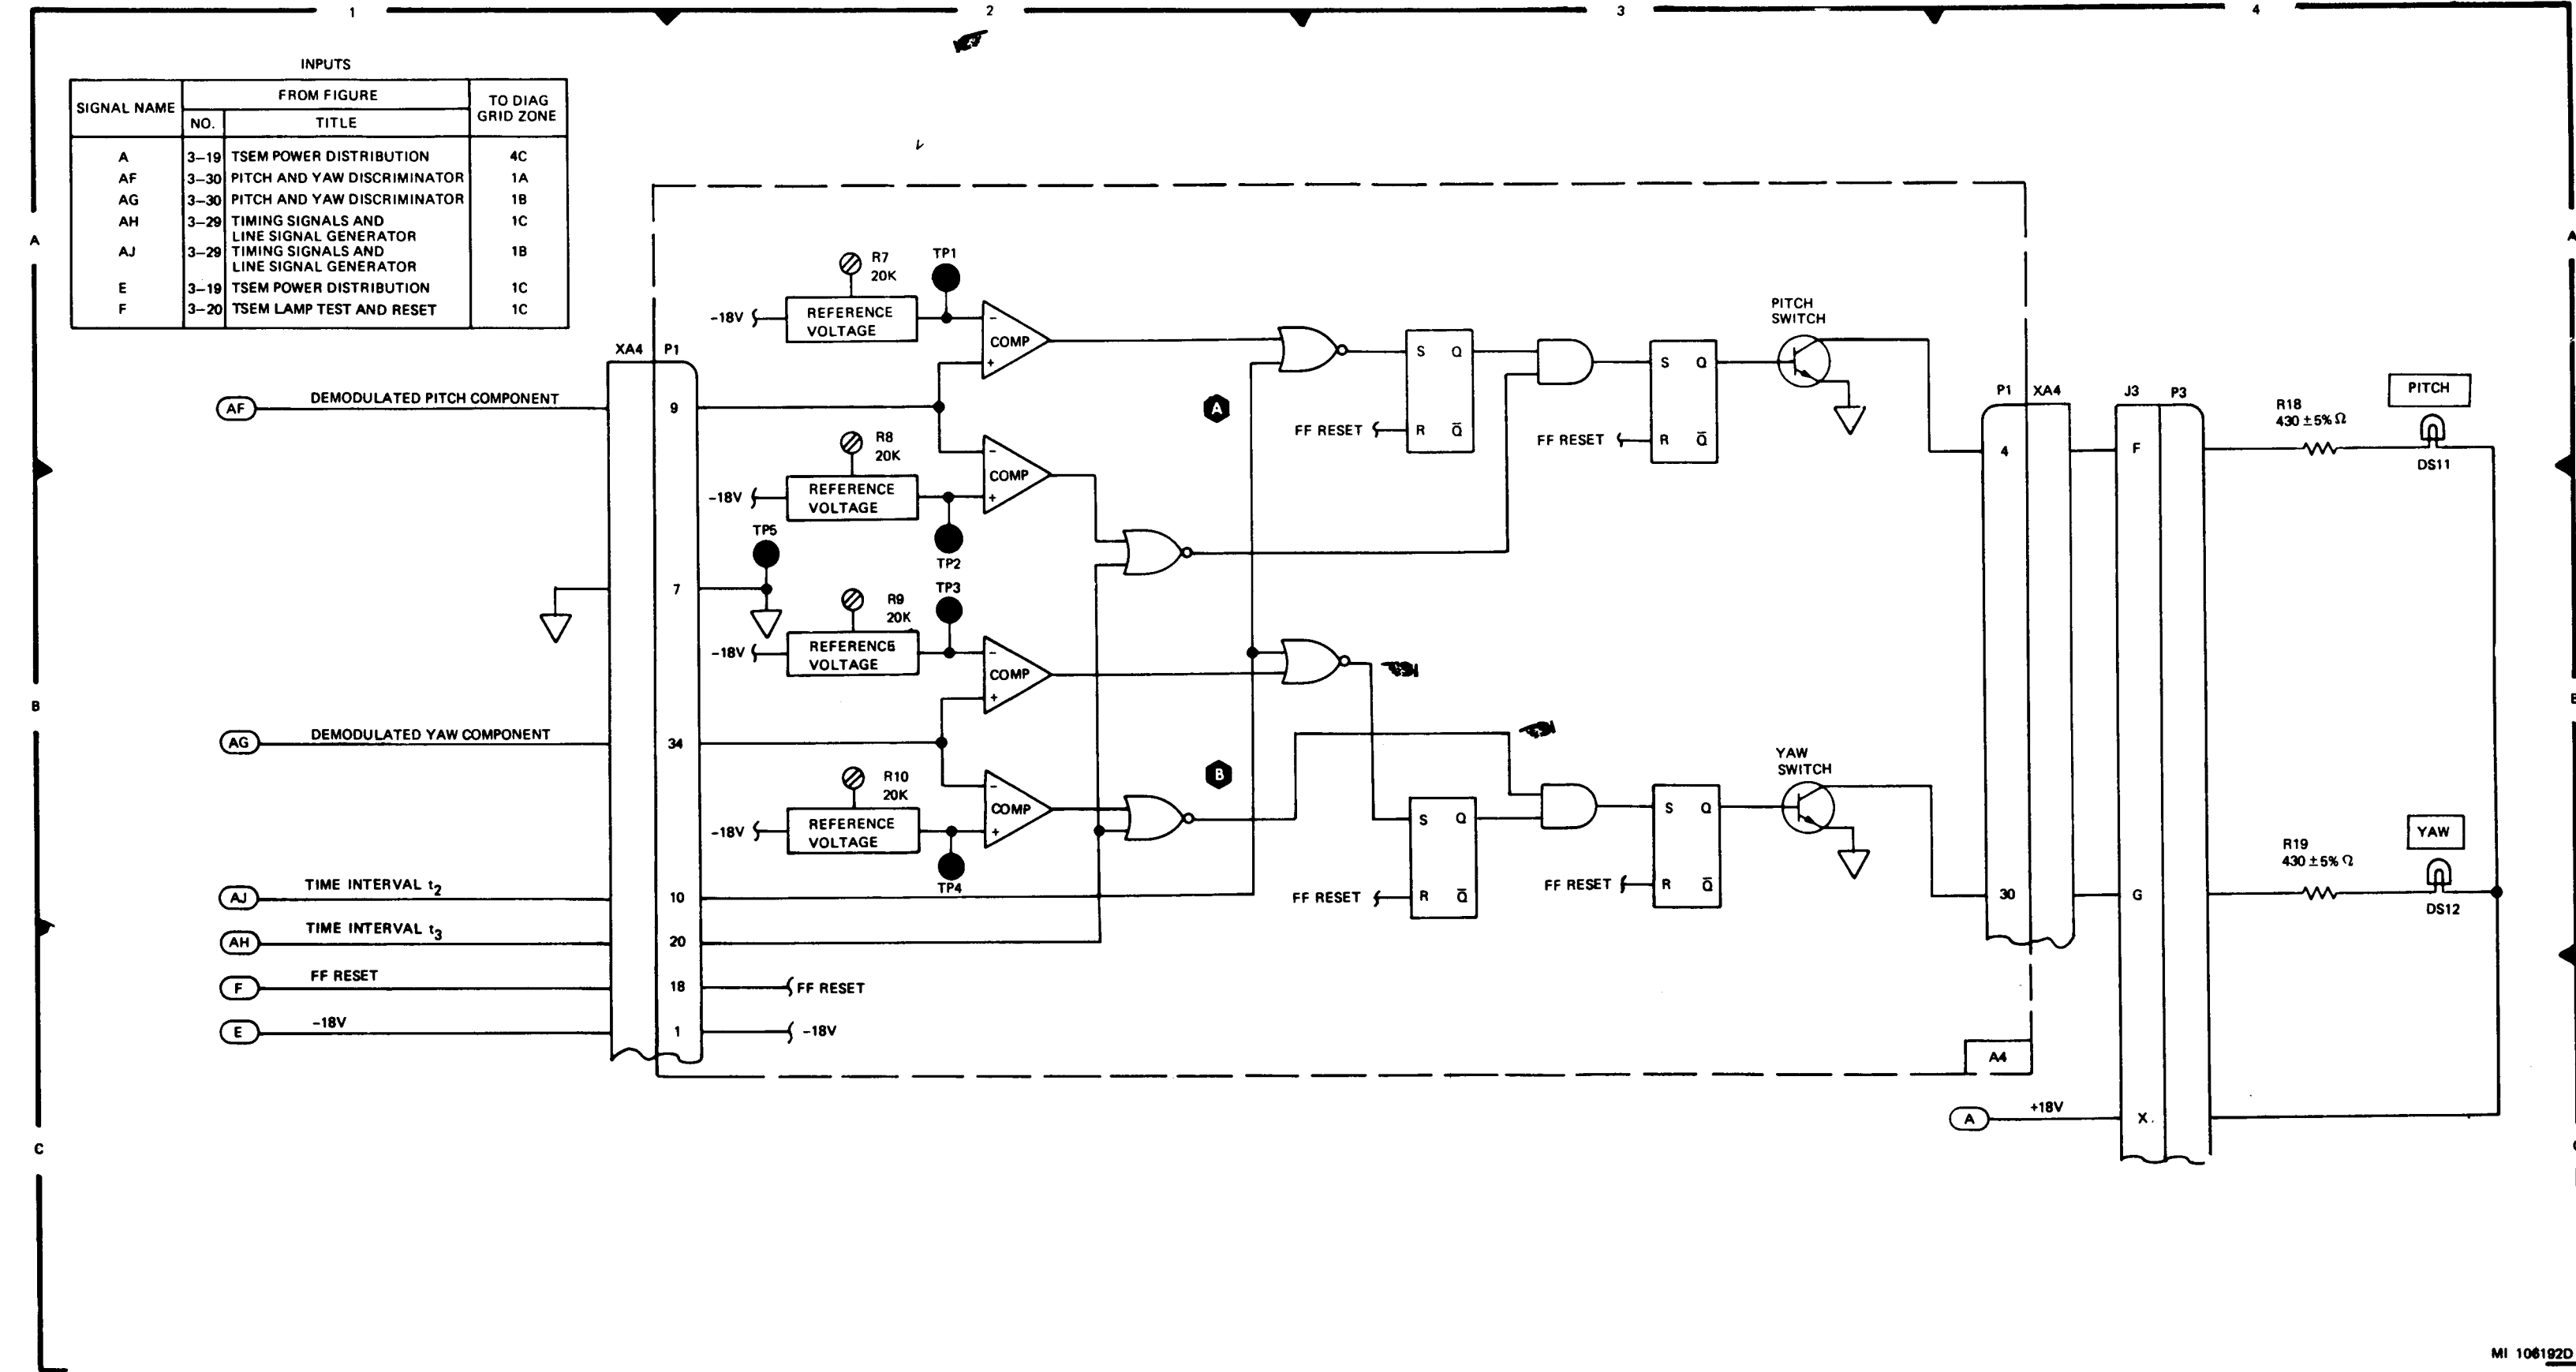

Figure 3-31. Self Balance Phase Testing Functional Diagram
m. Self Balance Phase Testing Function (Fig. 3-31). This function verifies correct phasing of the wire signal yaw and pitch frequency components.
A4	Figure 3-31